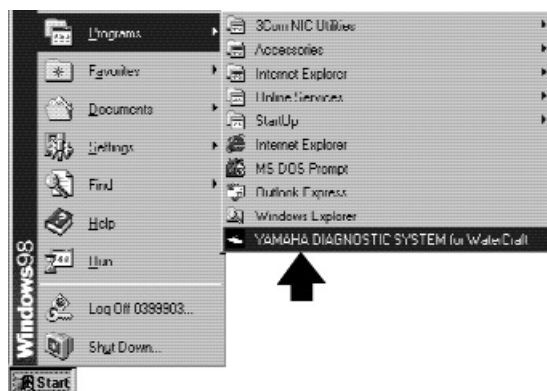

Fig. 19
3. From the taskbar at the bottom of your computer screen, click the **Start** button (Fig. 19), point to **Programs**, and then click **YAMAHA DIAGNOSTIC SYSTEM for WaterCraft**.